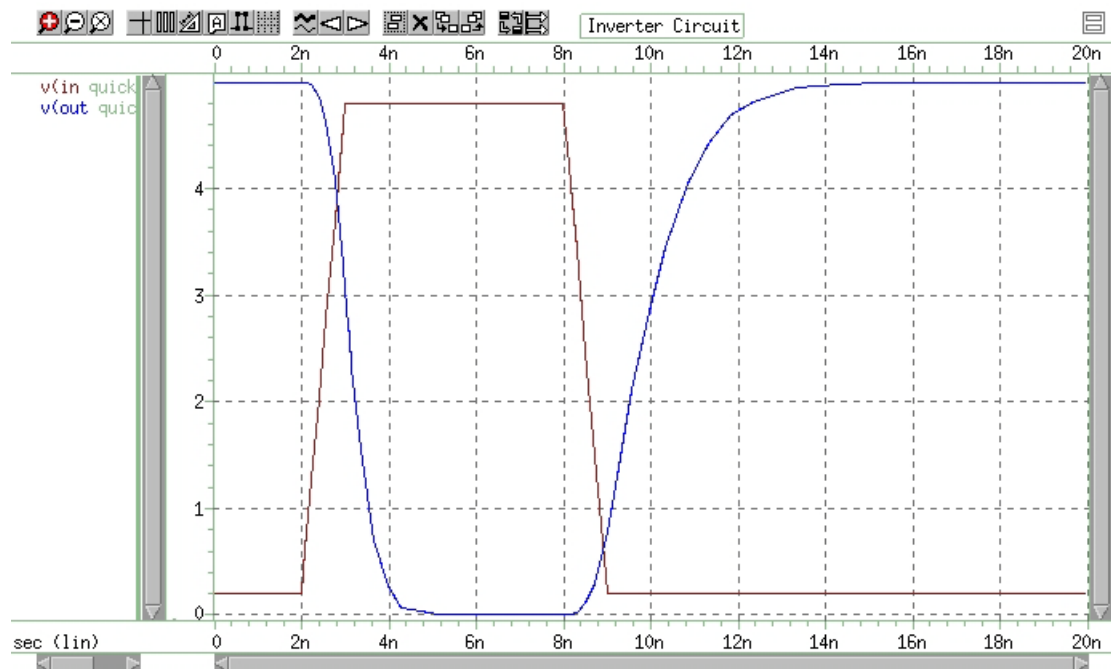

Figure 49 Voltage at MOS Inverter Node 1 and Node 2
3. Use WaveView to examine the voltage waveforms, at the inverter IN and OUT nodes. Figure 49 on page 465 shows the waveforms.